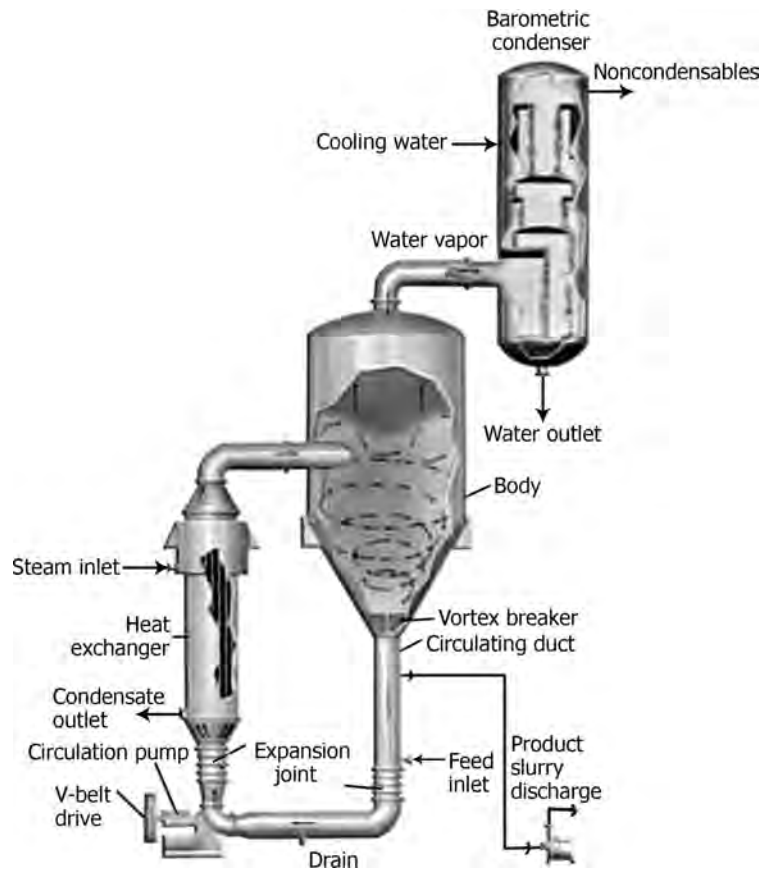

FIGURE 18.4 Forced circulation crystallizer. (Courtesy: Swenson Technology, Inc.)
- Figure 18.4 illustrates a typical forced circulation crystallizer of the Swenson design.